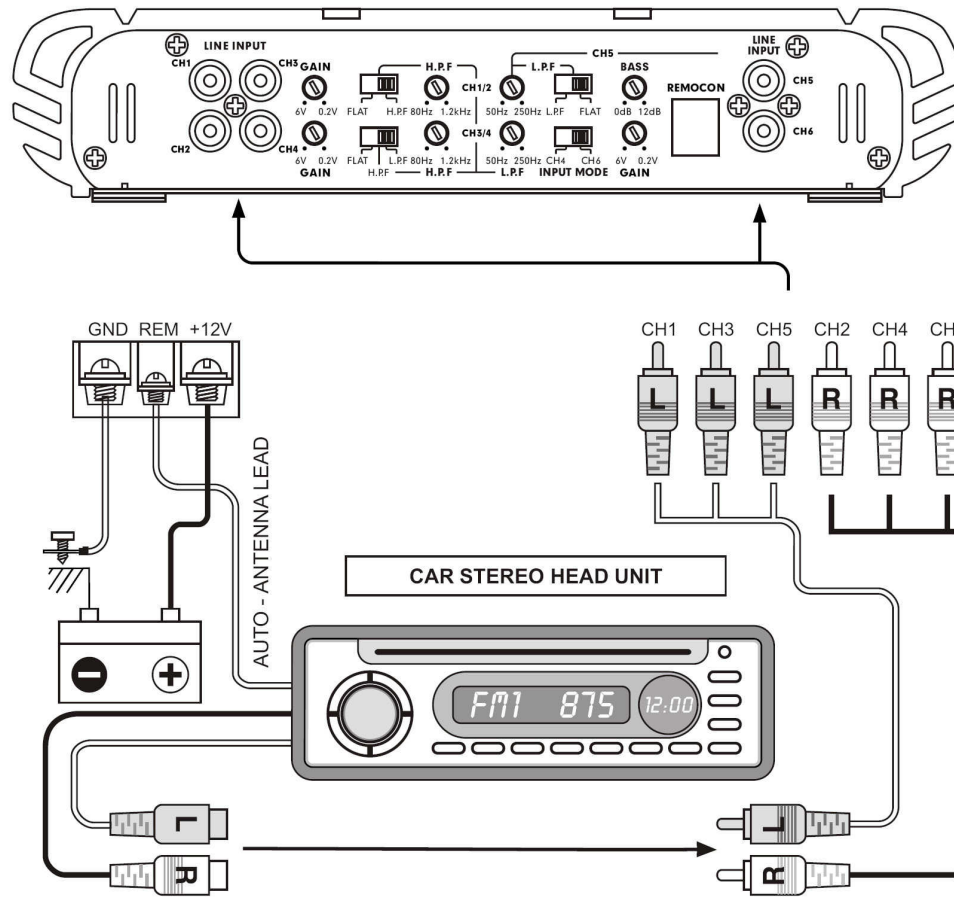

Fig. 2.
- Connect the low level/line level RCA cables from the head unit, or signal processor, to the line level input on the amplifier. See Fig.2 system wiring diagrams.